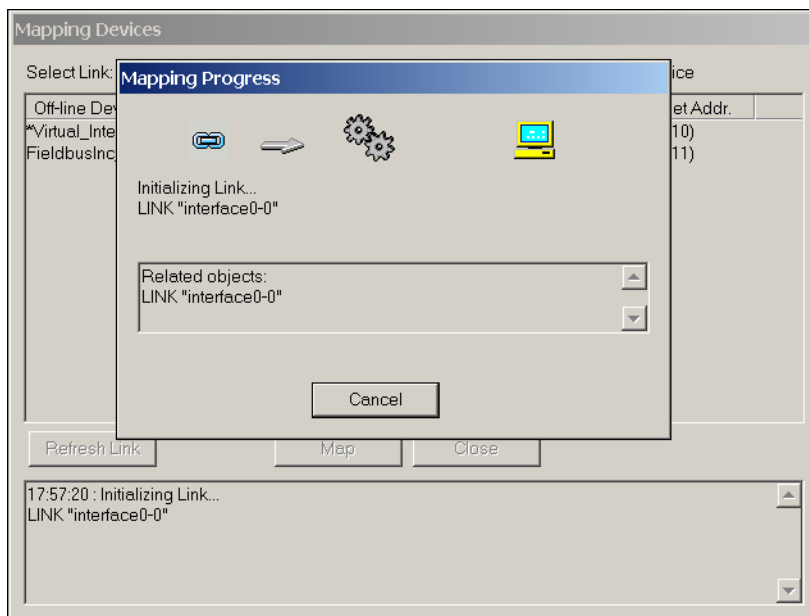

Figure 3-8. Initializing the Link
3. As the Configurator launches, check the **Open** option in the startup dialog box and open the `.fcg` file you saved in the Offline Configurator. A window prompts you to initialize the link, as shown in Figure 3-8.